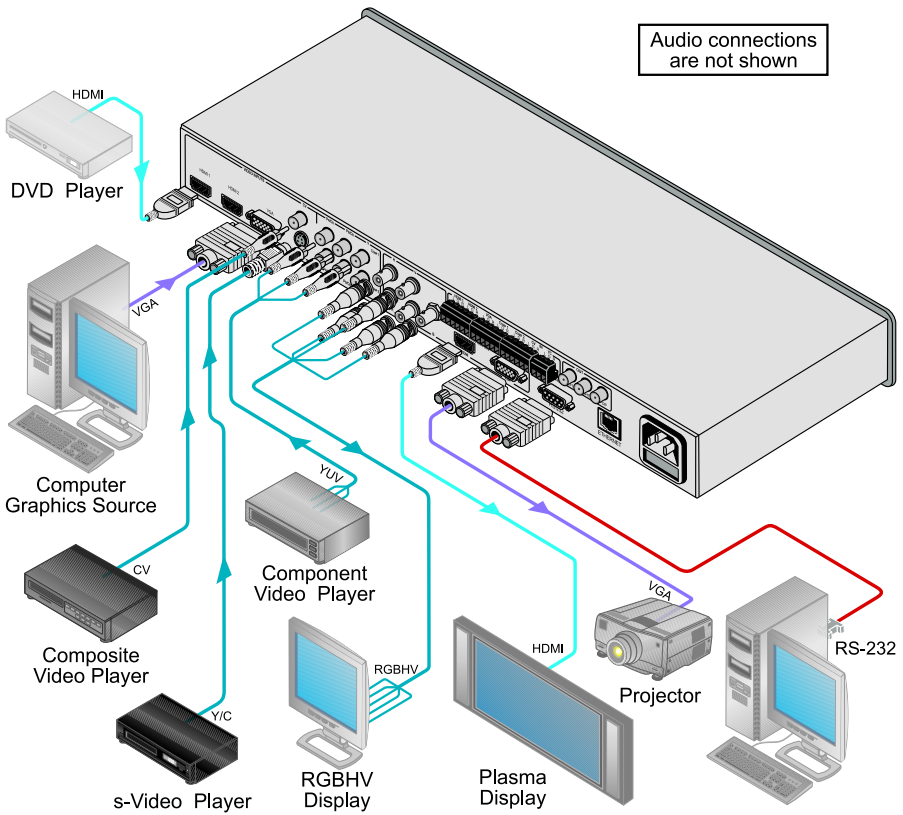

Figure 2: Connecting the VP-437xl Presentation Switcher / Scaler
To connect¹ your **VP-437xl**, as illustrated in the example in Figure 2, do the following:
6. Connect the audio input signals to the AUDIO IN terminal block connectors, as required (not shown in Figure 2).
10. Connect the audio output signals to the OUT stereo analog audio acceptor and/or the digital audio acceptor, as required (not shown in Figure 2).
11. Connect the power cord³ (not shown in Figure 2).